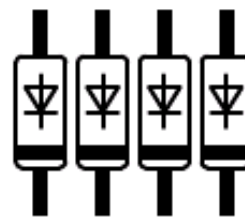

Figure 22:
6. Optionally: Arrays of diodes or LEDs should have all the anodes pointing into the same direction (See Figure 22 page 33).